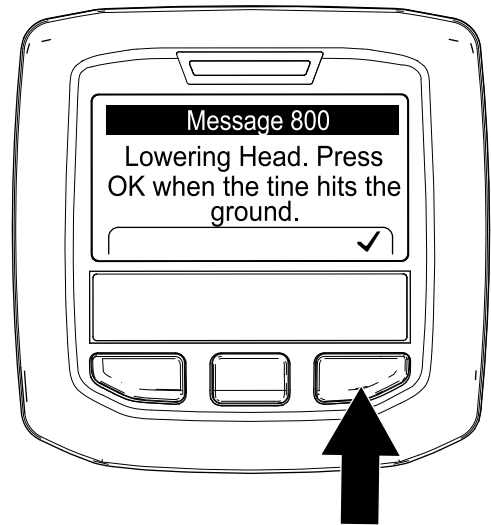

Figure 69
6. When any tine touches the ground, press the right InfoCenter button on the Lowering Head screen (Figure 69).